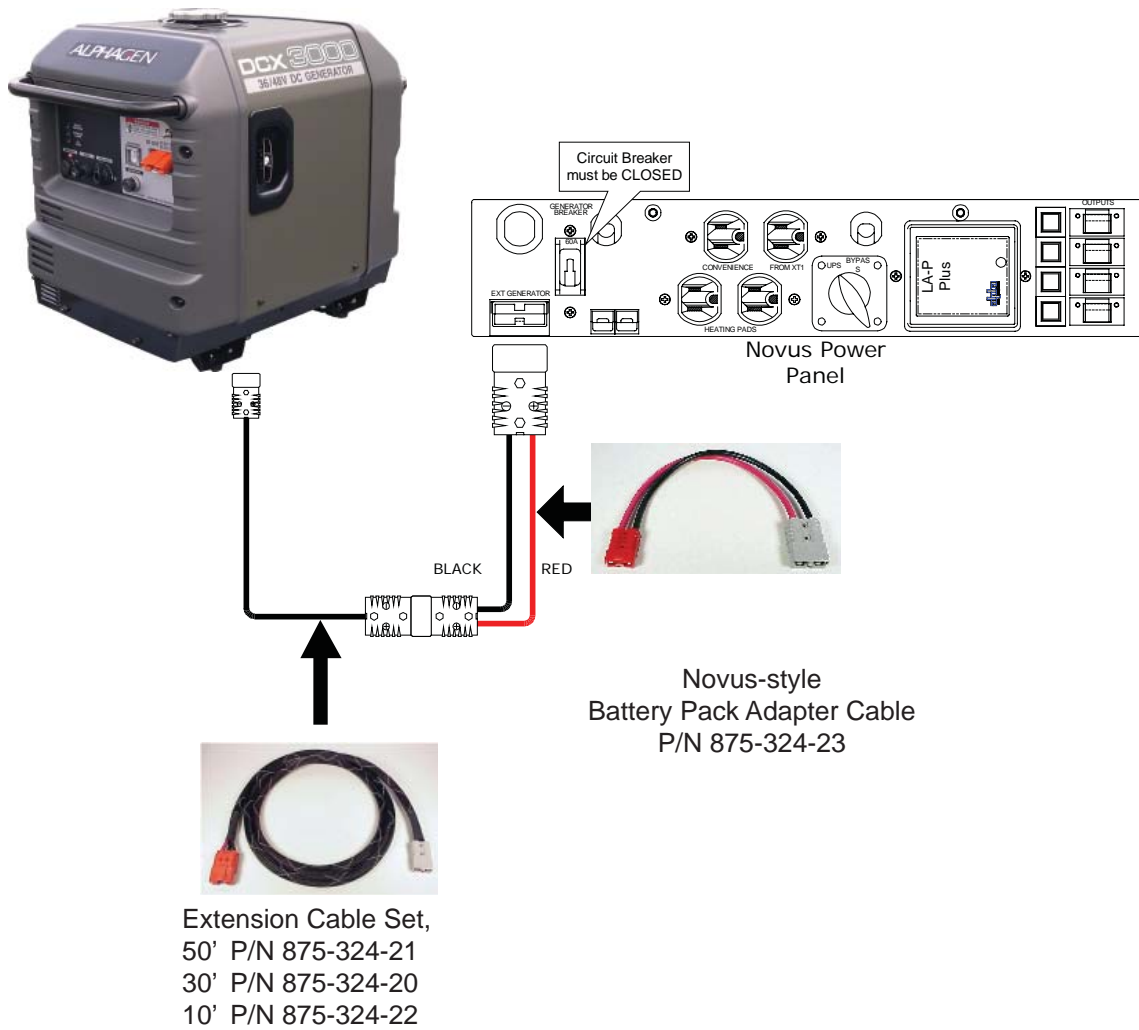
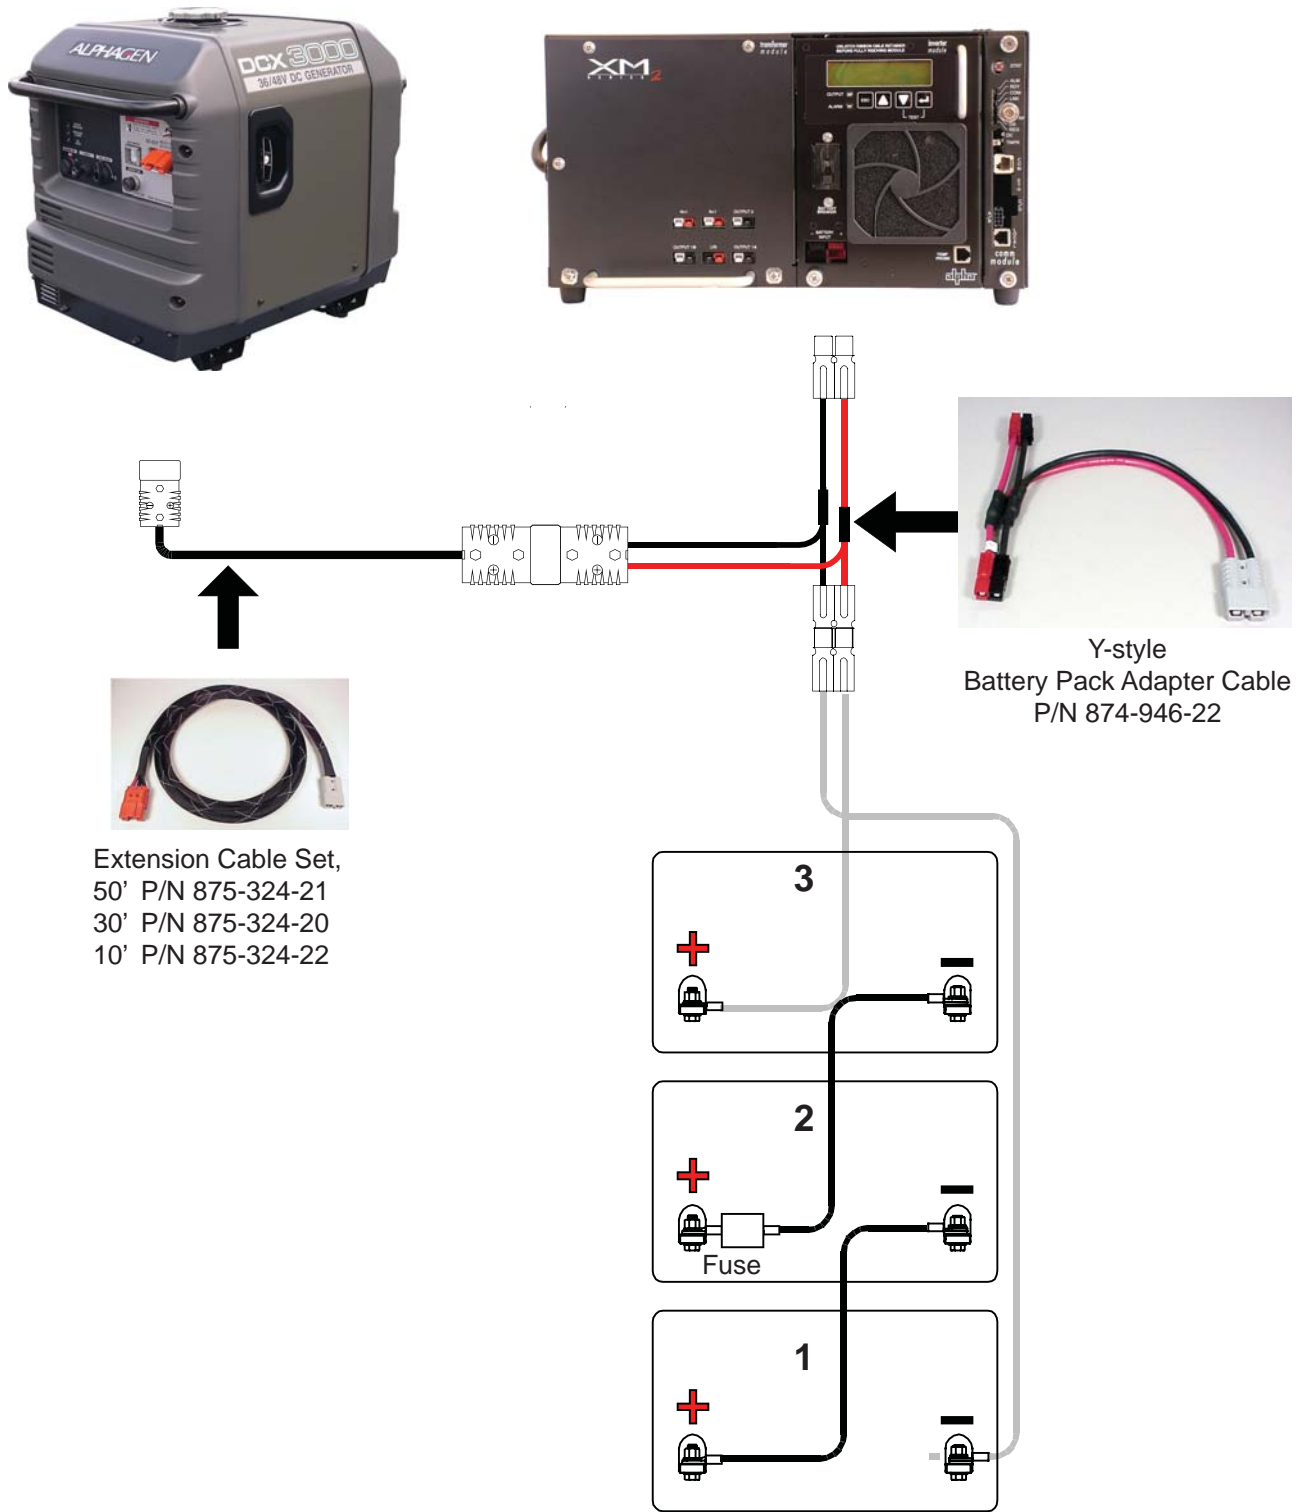

Fig. 3-5, Novus-style Connection
Fig. 3-6, Y-style Connection
2. Observing polarity (red to positive, black to negative), connect the Battery Pack Adapter Cable to the connections located in Step 1. Attach Ring Lug or Alligator Clamp connections directly to the battery post. See Fig. 3-5 and Fig. 3-6 for Novus-style and Y-style connections. **Do not** connect the extension cable to the DC OUT jack on the front panel of the generator at this time.